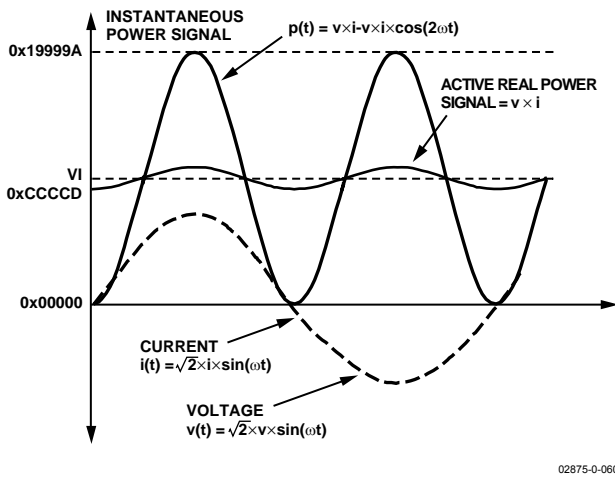

Figure 37. Active Power Calculation
Note that the active power is equal to the dc component of the instantaneous power signal $p(t)$ in Equation 9, i.e., VI . This is the relationship used to calculate active power in the ADE75XX/ADE71XX. The instantaneous power signal $p(t)$ is generated by multiplying the current and voltage signals. The dc component of the instantaneous power signal is then extracted by LPF2 (low-pass filter) to obtain the active power information. This process is illustrated in Figure 37.
The ADE75XX/ADE71XX also incorporates an active power offset register (WATTOS[15:0]). This is a signed twos complement 16-bit register that can be used to remove offsets in the active power calculation—see Figure 37. An offset could exist in the power calculation due to crosstalk between channels on the PCB or in the IC itself. The offset calibration allows the contents of the active power register to be maintained at 0 when no power is being consumed.
As mentioned in the last section, the discrete time sample period (T) for the accumulation register is 1.22 μs (5/CLKIN). With full-scale sinusoidal signals on the analog inputs and the WGAIN register set to 0x000, the average word value from each LPF2 is 0xCCCCD—see Figure 37. The maximum positive value that can be stored in the internal 49-bit register is 2⁴⁸ or 0xFFFF,FFFF,FFFF before it overflows. The integration time under these conditions with WDIV = 0 is calculated as follows: